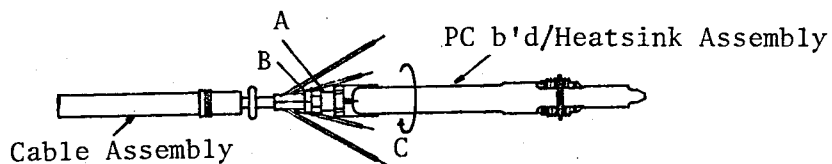

Figure 6-9. PC Board/Heatsink Assembly Removal
a. Hold the probe at positions A and B as shown in Figure 6-9 using pliers or a wrench.
b. Remove the PC Board/Heatsink assembly by rotating it in the direction of arrow C as shown in Figure 6-9.